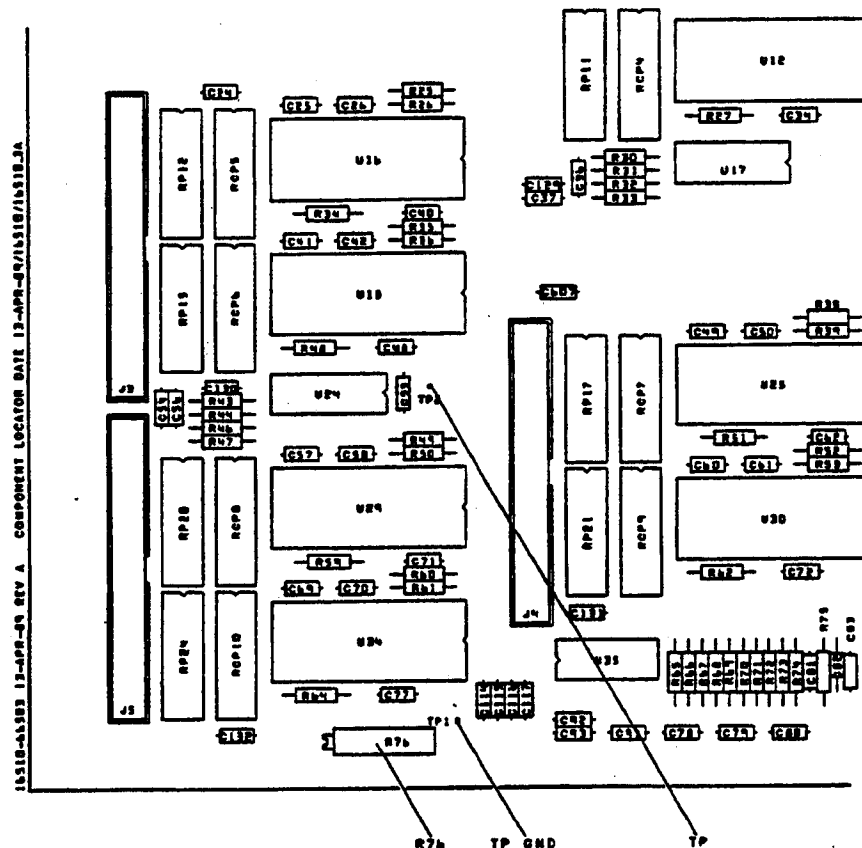

Figure 4-3. Adjustment Pod Location
- Connect the positive lead from the multimeter to the TP and the negative lead to the TP GND. For the location of the test points and the adjustable resistor, refer to figure 4-3.